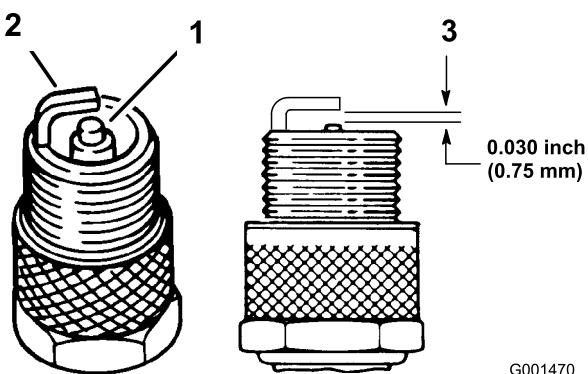

Figure 33
5. Set the air gap between the center and side of the electrodes at 0.762 mm (0.030 inch) (Figure 33).
4. Check the condition of the side electrode, center electrode, and center electrode insulator to ensure that there is no damage (Figure 33).